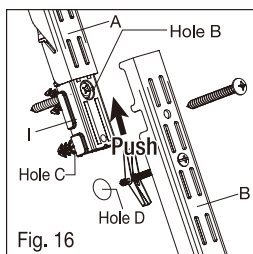

Fig. 16
- ☐ Push vertical rail joiner (I) up into upper vertical rail (A) as shown, secure the vertical rail joiner (I) on hole B with panhead screw (#12 x 2 in.) (see Fig. 16).